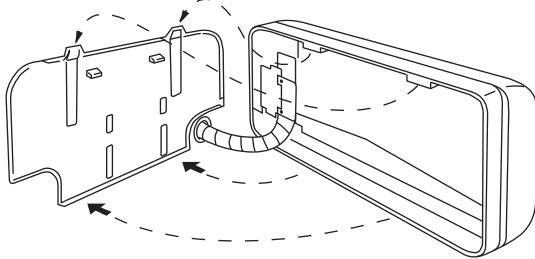

Fig. 3-61
(2) Push the wiring, refrigerant tubing, and drain hose through the hole in the wall. Adjust the indoor unit so it is securely seated on the rear panel. (Fig. 3-61)